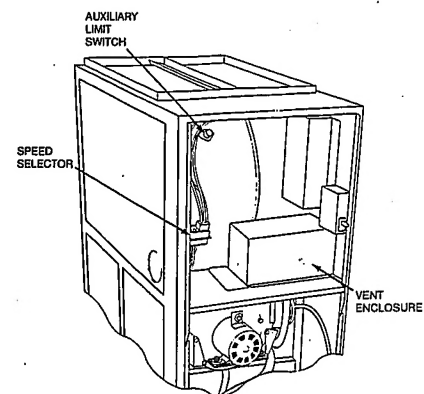

Fig. 6—Model 58DXC Downflow Furnace
3. Downflow furnace only—disconnect vent pipe, elbow, and auxiliary limit switch. (See Fig. 6.)